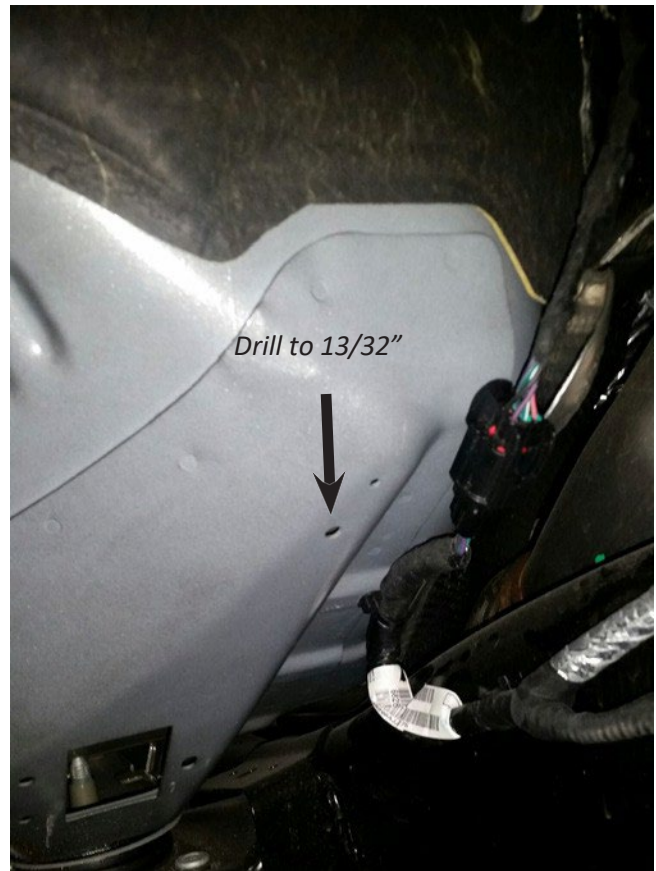

Figure 34: Driver-side (left) Passenger-side right)
- A. Drill existing holes in the fire wall, one on each side, to 13/32" and install nutsert using nutsert tool (fig. 34).